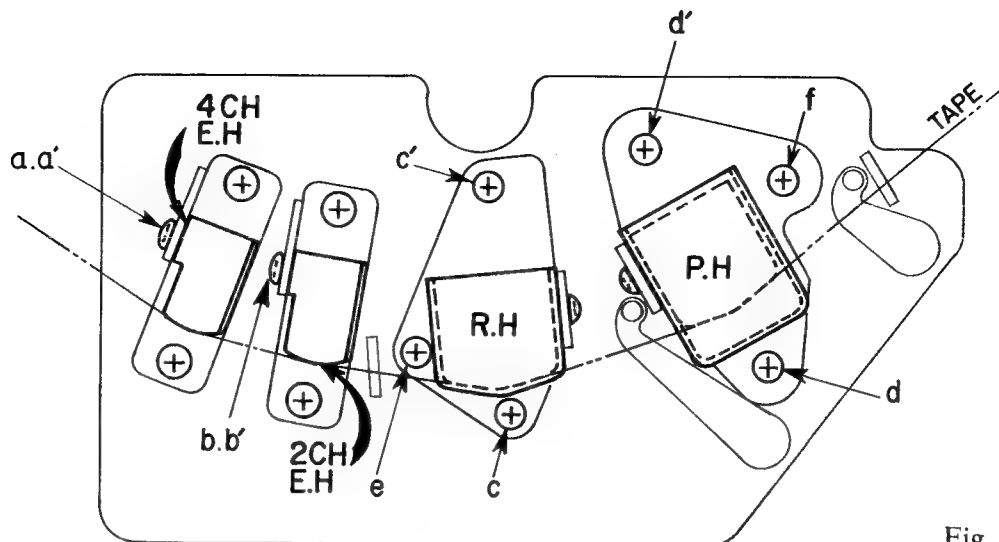

Fig. 2
(A) Adjustment of Head Height (See Fig. 2 and 3)